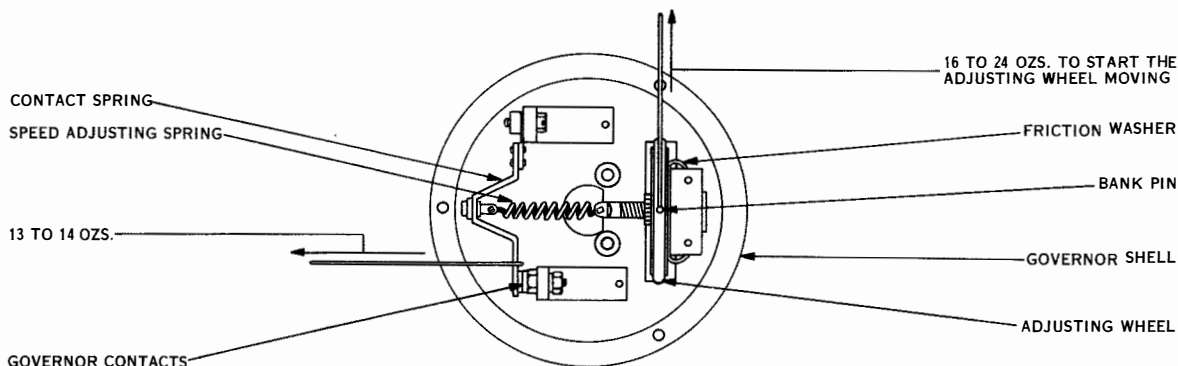

Figure 7-10. Governor Contacts, Speed Adjusting Wheel Friction Washer Spring, and Speed Adjusting Spring
(4) SPEED ADJUSTING WHEEL FRICTION WASHER SPRING. (See figure 7-10.)—A tension of 13 to 14 ounces should be required to break the governor contacts. To check, hook a 32-ounce scale over the contact spring arm next to the contact and pull parallel to the speed adjusting spring. To adjust, turn the adjusting wheel.